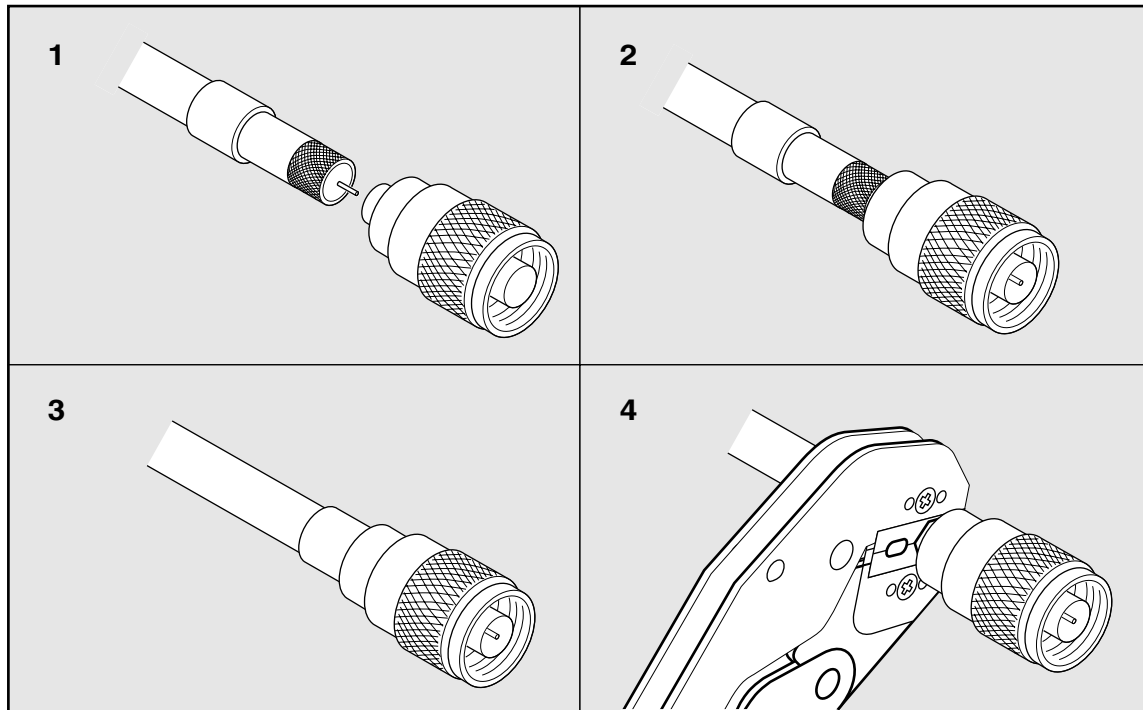

Figure 3. Assembling TNC and N Connectors to Cables
4.13. The prepared cable should look like the one shown in Figure 3, step 1.
- c. Push the connector body onto the cable by inserting the connector end between the cable's braided ground shield and the insulation covering the inner conductor. (See Figure 3, step 2.)
- f. Install connector body. Slide ferrule up against connector body. (See Figure 3, step 3.)
- g. Crimp ferrule in place with appropriate crimping tool and die. (Refer to "Tools Required," above.) This step completes the connector assembly. (See Figure 3, step 4.)